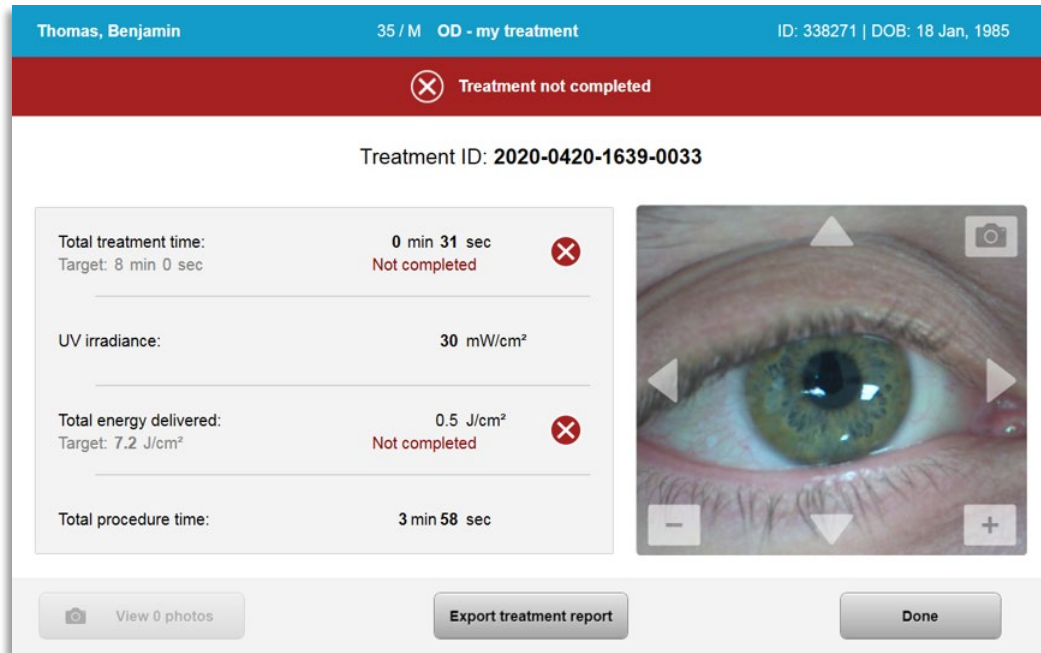

Figure 3-30. Partial Treatment Not Completed
- Partial Treatment information will be displayed as shown in Figure 3-30.